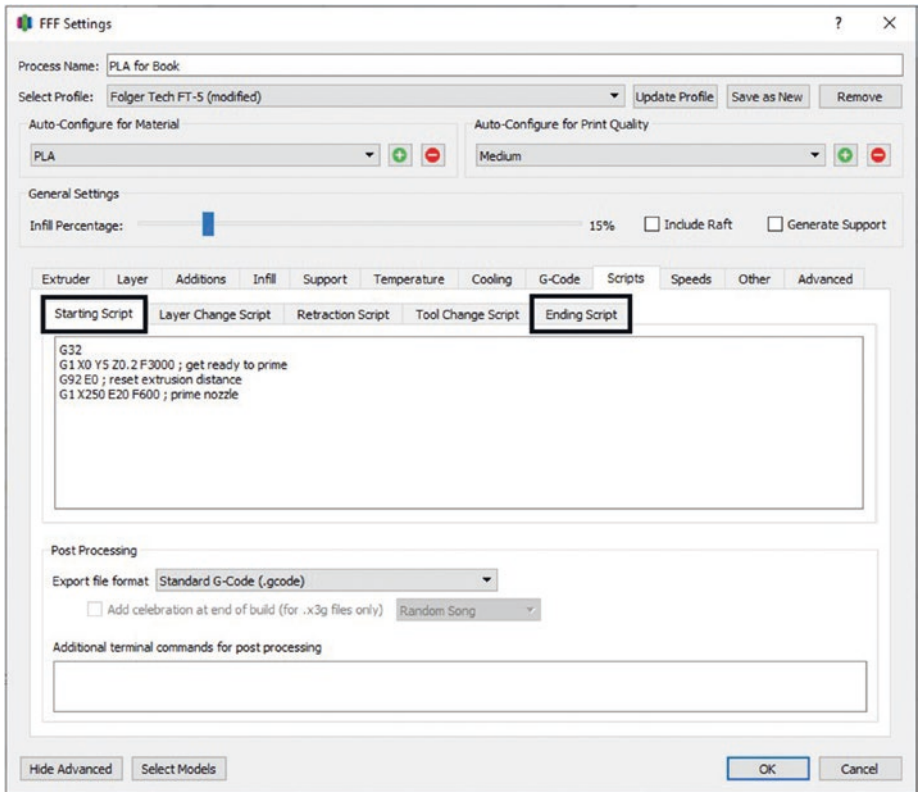

Figure 4-27. *Scripts tab*
9. Tab 9: Scripts (see Figure 4-27)